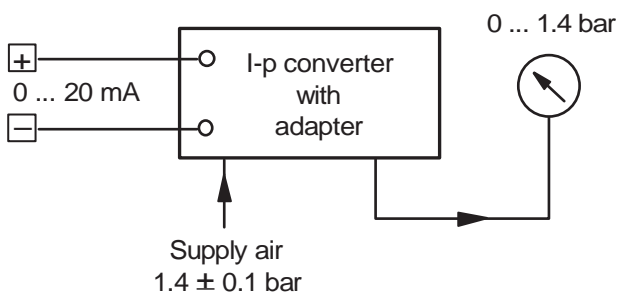
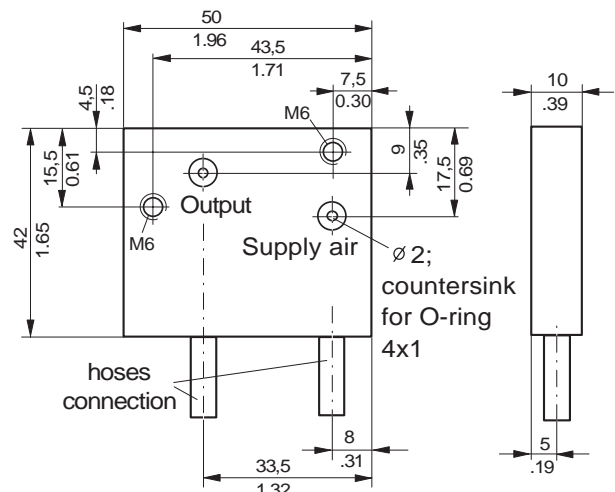

Fig. 30: Test circuit for I-p converter
Fig. 32: Test adapter for I-p converter
An adapter is required for checking and adjusting the I-p converter which can be done by yourself as shown in Fig. 32.
- Remove the I-p converter **91** from connecting manifold **90** (two screws M 6), connect it to the adapter Fig. 32 and wire as shown in Fig. 30.